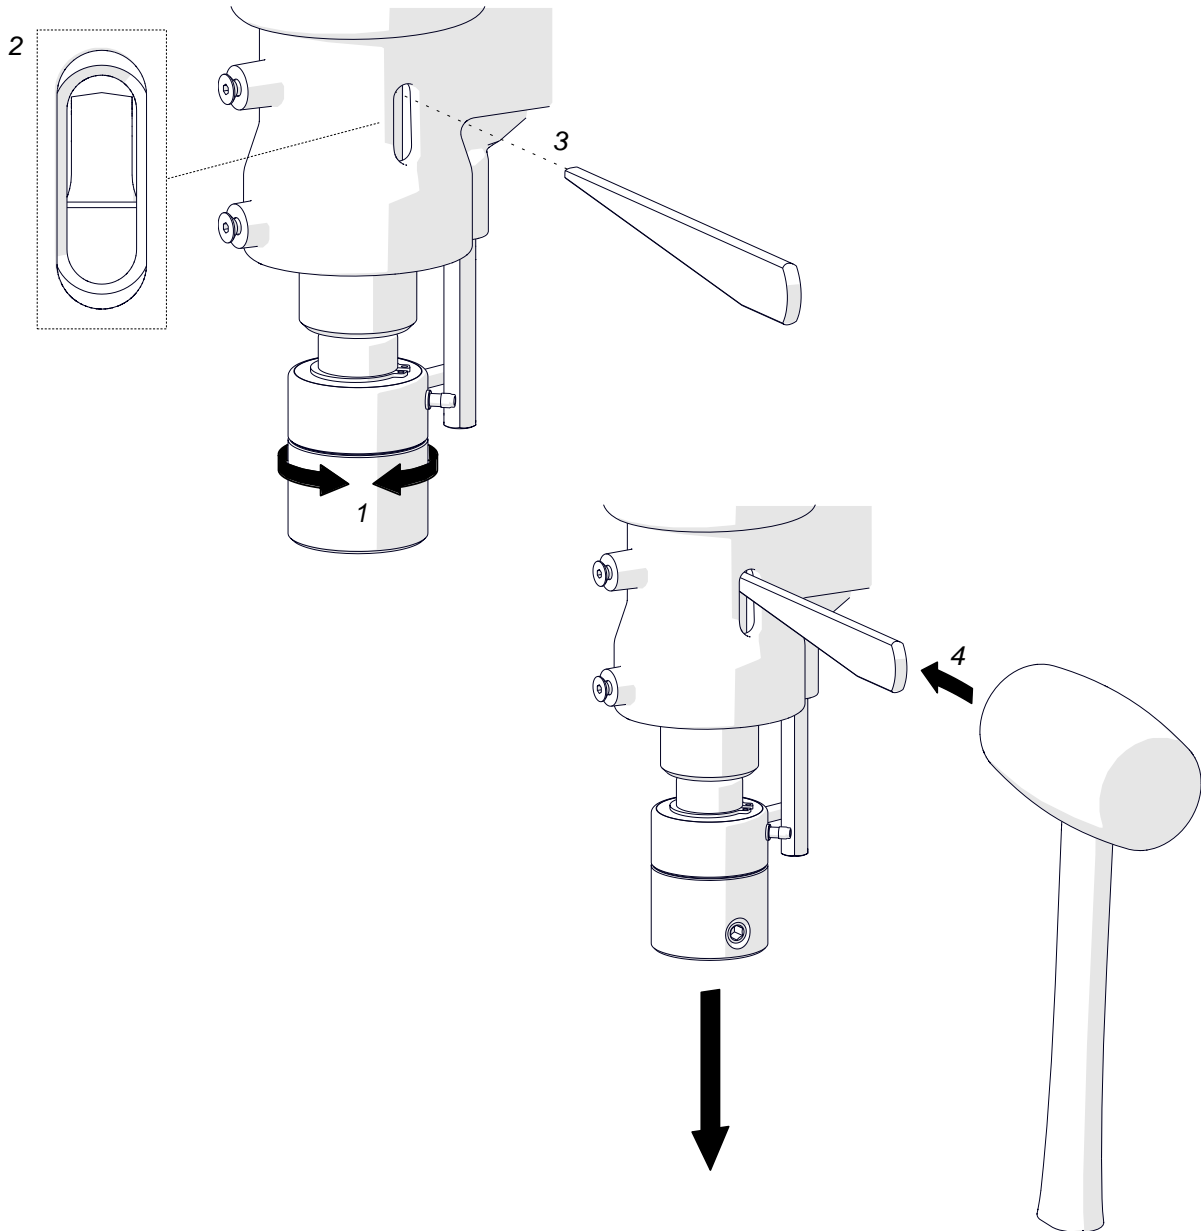

Fig. 2. Removing the arbor or twist drill bit
To remove the arbor (drill bit), raise the motor, and then rotate the spindle (1, Fig. 2) so that the holes in the spindle and gearbox body are aligned (2). Next, insert the MT2 drift into the hole (3), and tap the drift with a mallet (4).